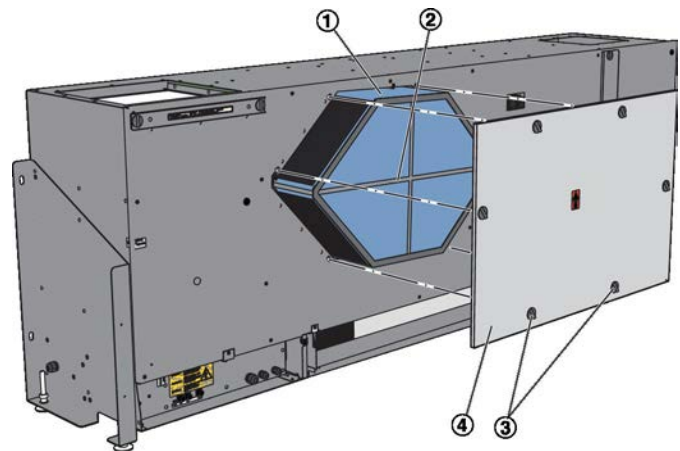

Fig. 23: Cleaning the recuperative heat exchanger
- 2. ▶ Open all turn fasteners (Fig. 23/3) with a quarter turn, then remove the cover of the recuperative heat exchanger (Fig. 23/4).
- 3. ▶ Grasp the recuperative heat exchanger (Fig. 23/1) by the lug (Fig. 23/2) and pull it out.
Rinse the recuperative heat exchanger (Fig. 23/1) with hot water (40 °C max.), e.g. by using a commercially available shower head.